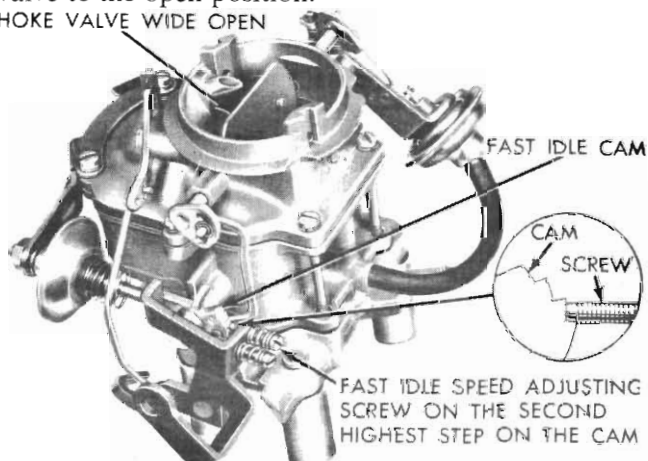

Fig. 17 - Fast idle speed adjustment (on the vehicle)
(3) The fast idle speed adjusting screw should be contacting the 2nd fastest speed step on the fast idle cam, as shown in (Fig. 17).
(4) With the engine warmed-up to the normal operating temperature, turn the fast idle speed adjusting screw IN or OUT to obtain 1500 R.P.M.